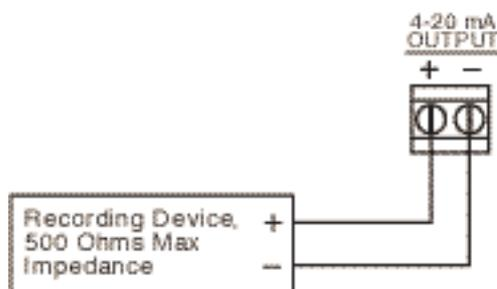

Figure 7: Recorder Output Wiring
6. Connect the leads from the recording device to the analog output terminal strip as shown in **Figure 7** below.